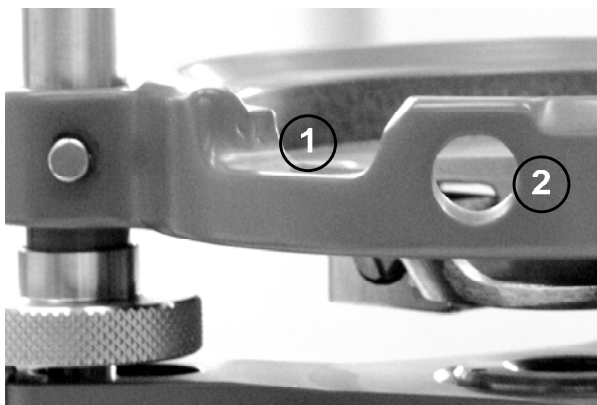

Figure 6 - Detail view of WILD GDF6 tribrach
In figure 6 a former Leica (Wild) tribrach model is shown – the GDF6 (not available any more), used as standard tribrach for various instruments (e.g. Wild T16). The cut (1) in figure 6 was used to fix the instrument permanently in the same position in the tribrachs (older instruments had a compatible nose) to avoid centring errors for special applications. The hole (2) was made for the light channel for the horizontal circle reading. Today's models do not provide the hole (2) any more because it's simply outdated. There are no devices relying on it any more. However, the cut (1) is still necessary for some instruments (e.g. Leica TDA5100).